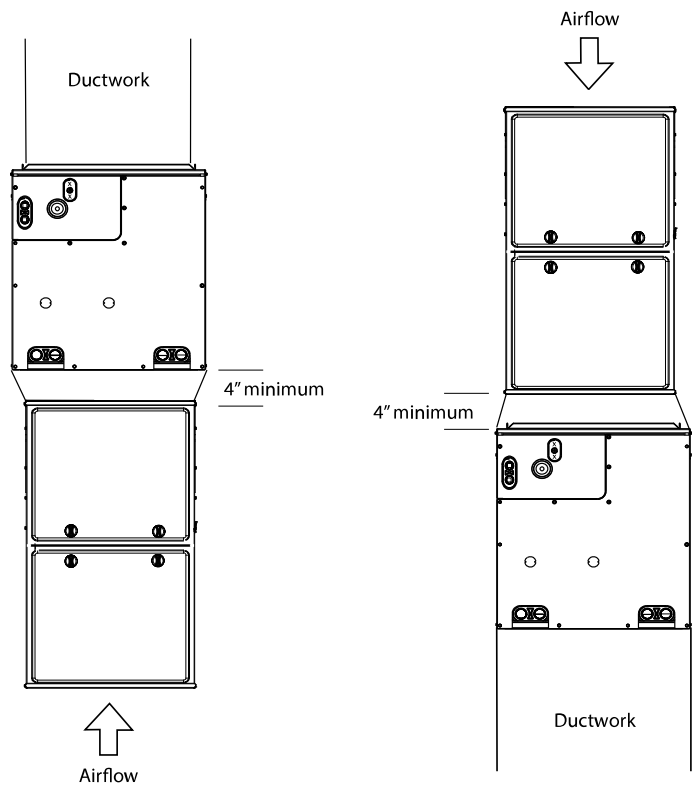

Fig. 3 – Adapter(s) Installation When Coil is Larger than Furnace A221122B
3. When installing wider coil on narrower furnace, it is recommended to use a transition adapter (Fig. 3).